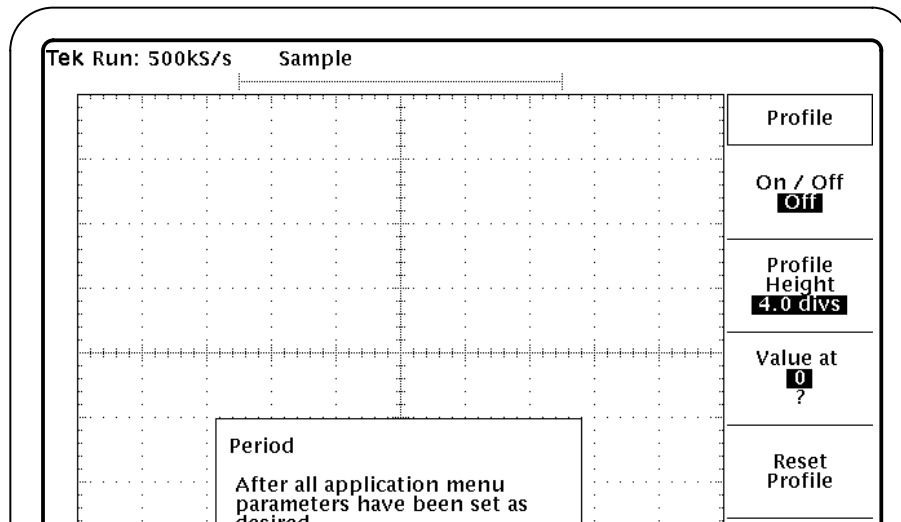
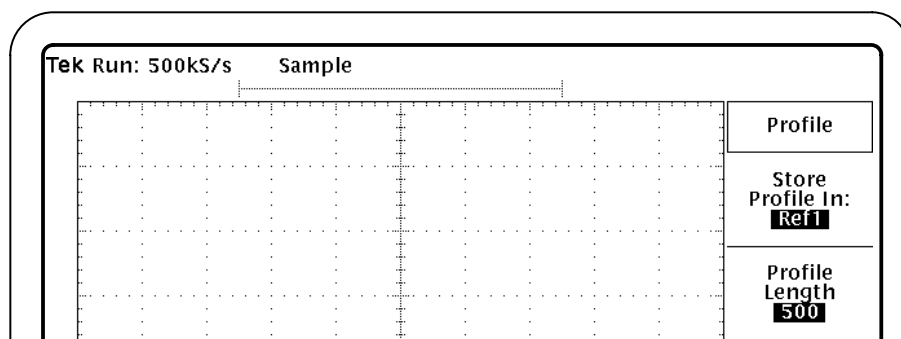

Figure 21: Profile format menu, part 1
Figure 22: Profile format menu, part 2
1. Press Profile (main) On/Off (side) to enable or disable the format. You define the format in the remaining menu items. See Figure 21 and Figure 22.